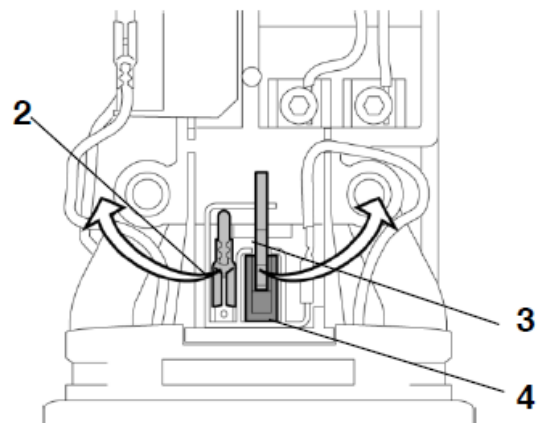

Fig. 15 Carbon brush replacement MB 20/2 and MB 20/3 (2)
- Release the cable connector (2) from the connection.
- Release the retaining spring (3) from the carbon brush (4) (Fig. 15).